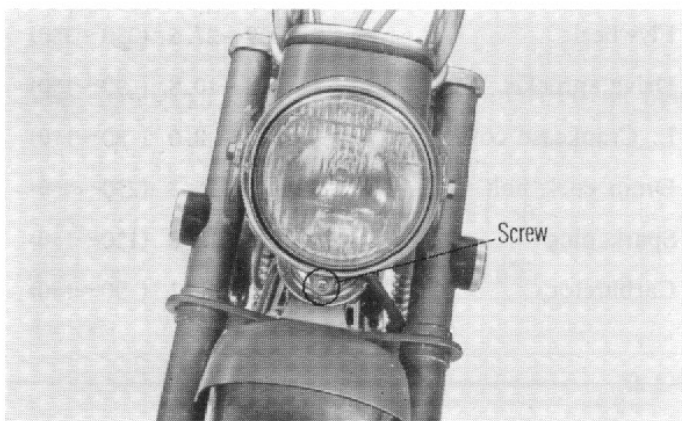
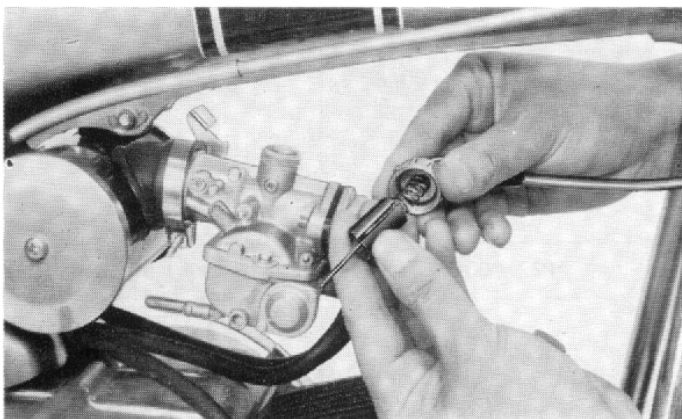

Fig. 59
Fig. 60
- (3) Remove the headlight assembly and disconnect all electrical leads after removing the head light cover by removing the screw at the bottom (**Fig. 59**).
- (4) Uncouple the speedometer cable and disconnect the front brake cable.
- (5) Disconnect the throttle cable by removing the carburetor cap and disengage the cable from the throttle valve (**Fig. 60**).